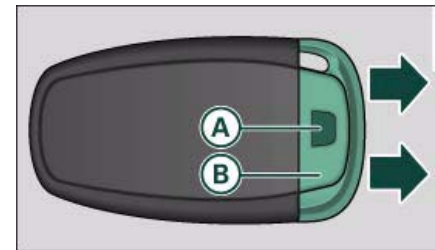

Fig. 29 Remote control key: Removing the emergency key
- Press the release button **A** ⇒ fig. 29. ▶